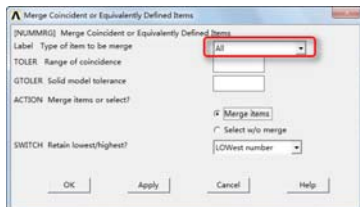

图 10-18 “Merge Coincident or Equivalently Defined Items”对话框
⑦依次选择 Main Menu→Preprocessor→Numbering Ctrl→Merge Items，会弹出“Merge Coincident or Equivalently Defined Items”对话框，如图 10-18 所示，在“Label Type of item to be merge”列表中选择“All”，单击“OK”按钮关闭该对话框。